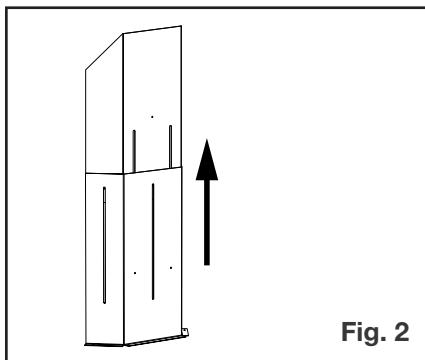

Fig. 2
2. Adjust the vent shield to its maximum vertical **(Figure 2).**